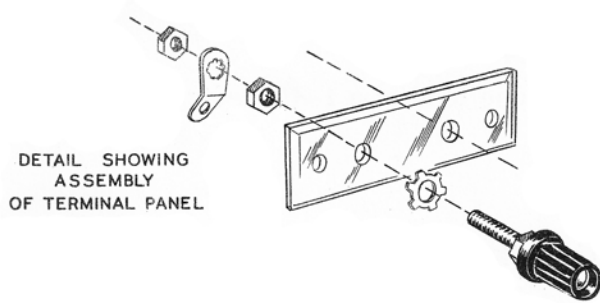

Figure 12
- () Mount the binding posts on the terminal board insulator as shown in Figure 12.